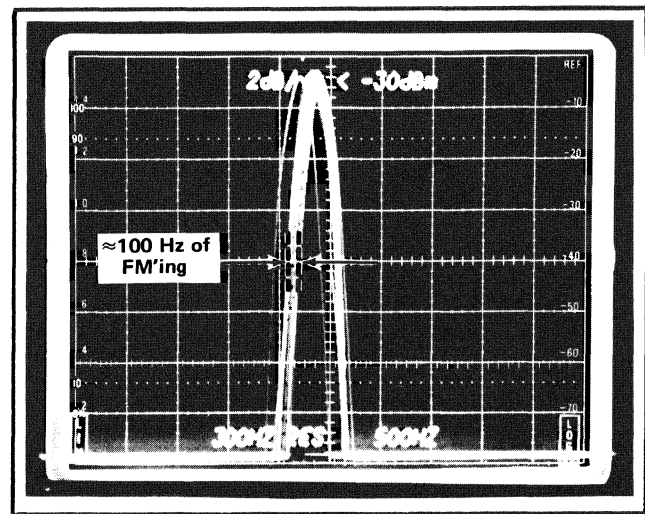

Fig. 3-5. Measuring incidental FM'ing.
d. Check—The FM'ing of the displayed marker. FM'ing must not exceed 20 kHz (2.0 div). Fig. 3-5 illustrates how FM is measured.